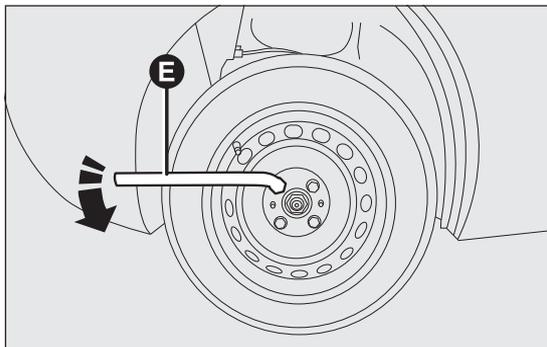

fig. 98
- loosen the retaining bolts for the wheel to be changed by about one turn using the spanner provided E fig. 98;